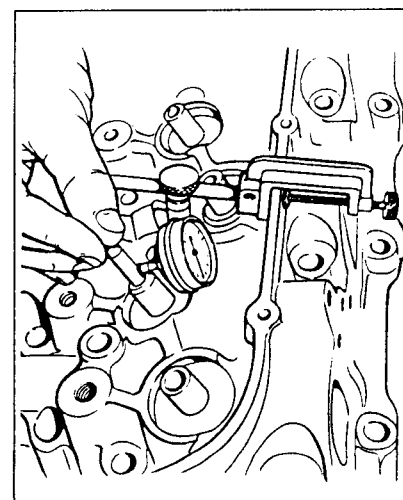

Figure 8-1-8
10. Measure valve stem clearance (Figure 8-1-8) as follows: Clamp a dial indicator on one side of the cylinder head rocker arm cover gasket rail, locating the indicator so that movement of the valve stem from side to side (crosswise to the head) will cause a direct movement of the indicator stem. The indicator stem must contact the side of the valve stem just above the valve guide. With the valve head dropped about  $1/16$ " off the valve seat; move the stem of the valve from side to side using light pressure to obtain a clearance reading. If clearance exceeds specifications it will be necessary to ream valve guides for oversize valves as outlined.